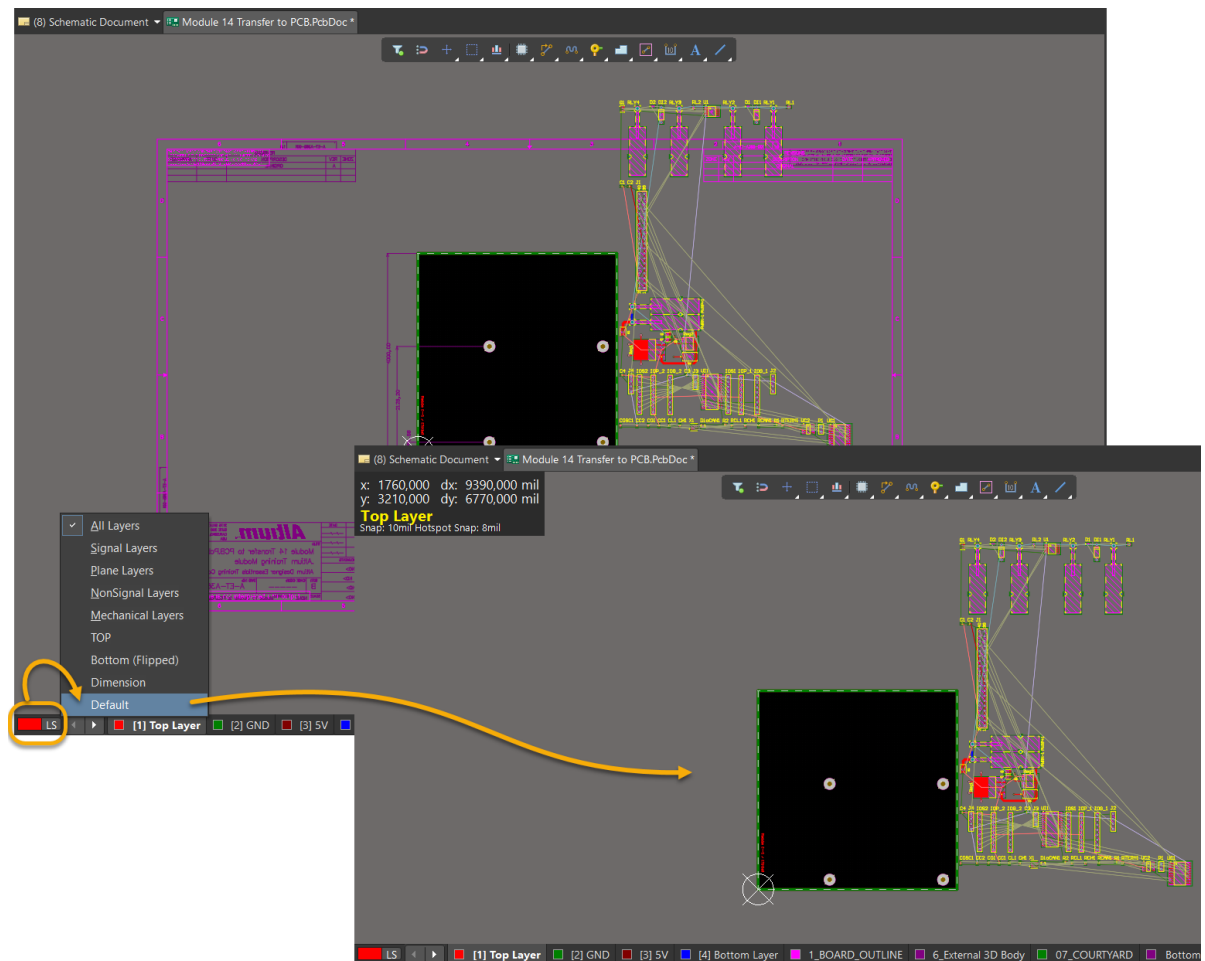

Figure 5. Initial Transfer and using an example Layer Set
19. To control the visibility of the used layers, from the lower left select **Layer Set (LS)** , from the pop-up menu select **Default**. The **Default** Layer-Set deactivates the layers: Title Block information and Dimensions, see Figure 5.